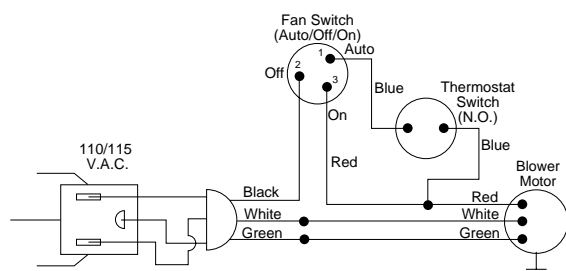

Figure 19 - Wiring Diagram For Blower Accessory Built-In Installation
3. A licensed electrician must follow the wiring diagram to connect incoming electrical supply to fan kit wiring harness (see Figure 19).